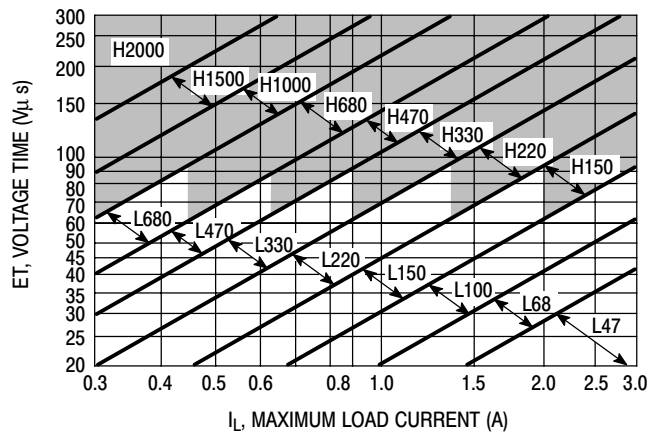
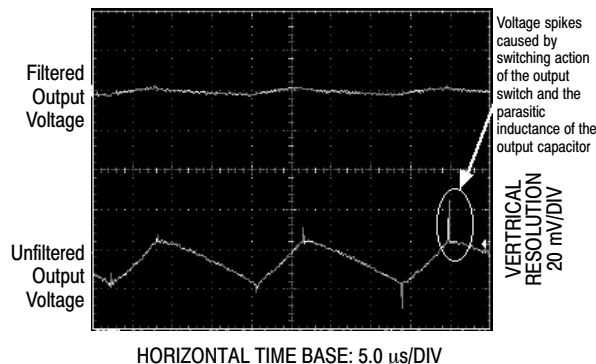

Figure 22. LM2576-ADJ
Figure 25. Output Ripple Voltage Waveforms
4. Inductor Selection (L1) A. Use the following formula to calculate the inductor Volt x microsecond [V x μs] constant: $E \times T = (V_{in} - V_{out}) \frac{V_{out}}{V_{in}} \times \frac{10^6}{F[\text{Hz}]} \text{ [V x } \mu\text{s]}$ B. Match the calculated E x T value with the corresponding number on the vertical axis of the Inductor Value Selection Guide shown in Figure 22. This E x T constant is a measure of the energy handling capability of an inductor and is dependent upon the type of core, the core area, the number of turns, and the duty cycle. C. Next step is to identify the inductance region intersected by the E x T value and the maximum load current value on the horizontal axis shown in Figure 25. D. From the inductor code, identify the inductor value. Then select an appropriate inductor from Table 2. The inductor chosen must be rated for a switching frequency of 52 kHz and for a current rating of $1.15 \times I_{Load}$. The inductor current rating can also be determined by calculating the inductor peak current: $I_{p(\text{max})} = I_{Load(\text{max})} + \frac{(V_{in} - V_{out}) t_{on}}{2L}$ where t_{on} is the "on" time of the power switch and $t_{on} = \frac{V_{out}}{V_{in}} \times \frac{1.0}{f_{osc}}$ For additional information about the inductor, see the inductor section in the "External Components" section of this data sheet.	4. Inductor Selection (L1) A. Calculate E x T [V x μs] constant: $E \times T = (25 - 8.0) \times \frac{8.0}{25} \times \frac{1000}{52} = 80 \text{ [V x } \mu\text{s]}$ B. E x T = 80 [V x μs] C. $I_{Load(\text{max})} = 2.5 \text{ A}$ Inductance Region = H150 D. Proper inductor value = 150 μH Choose the inductor from Table 2.
The regulator output voltage may also contain short voltage spikes at the peaks of the sawtooth waveform (see Figure 25). These voltage spikes are present because of the fast switching action of the output switch, and the parasitic inductance of the output filter capacitor. There are some other important factors such as wiring inductance, stray capacitance, as well as the scope probe used to evaluate these transients, all these contribute to the amplitude of these spikes. To minimize these voltage spikes, low inductance capacitors should be used, and their lead lengths must be kept short. The importance of quality printed circuit board layout design should also be highlighted.
In order to minimize the output ripple voltage it is possible to enlarge the inductance value of the inductor L1 and/or to use a larger value output capacitor. There is also another way to smooth the output by means of an additional LC filter (20 μH, 100 μF), that can be added to the output (see Figure 34) to further reduce the amount of output ripple and transients. With such a filter it is possible to reduce the output ripple voltage transients 10 times or more. Figure 25 shows the difference between filtered and unfiltered output waveforms of the regulator shown in Figure 34.